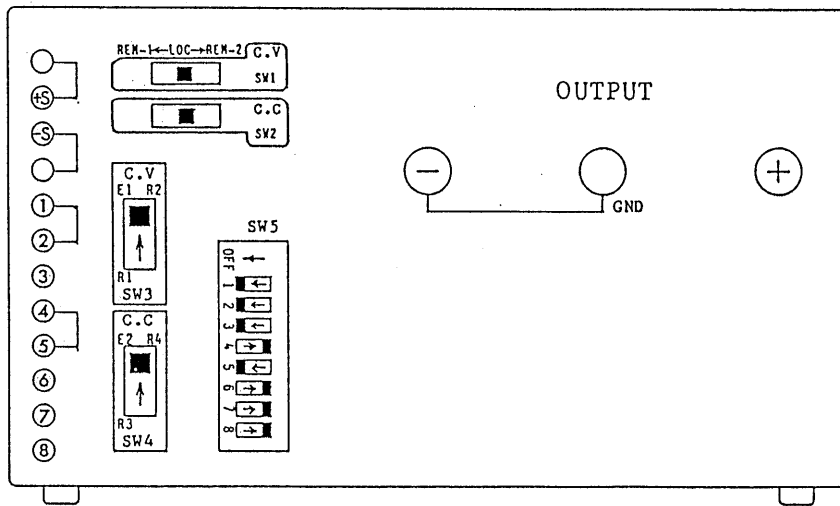

Figure 2-25. Typical Setting of Model Select Switches and Output Terminal Jumpers
1. Confirm the mode switches and terminal jumpers of the rear panel to standard states as shown in Figure 2-25.